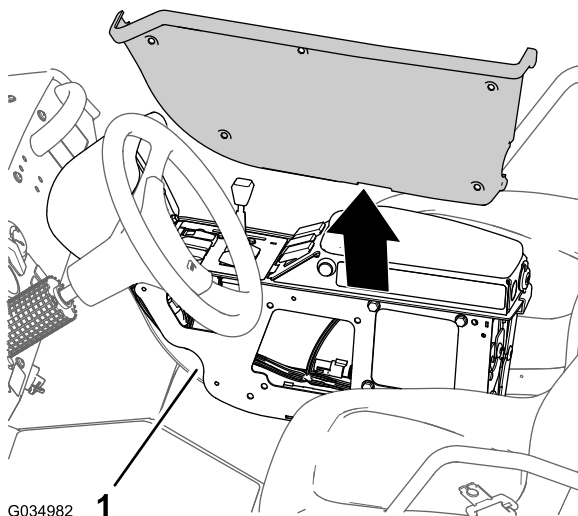

Figure 99
6. Align the cover that you removed (Figure 99) to the left side of the center console.